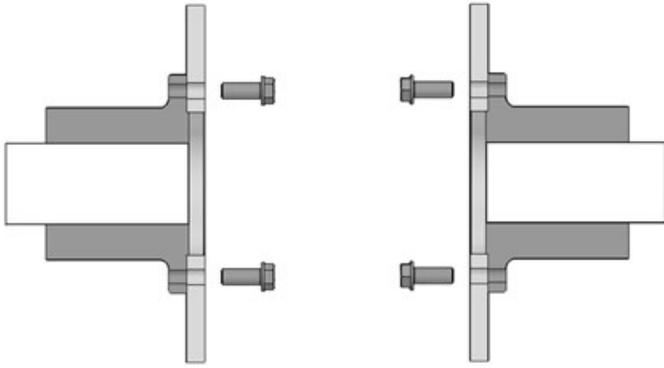

Fig 5.8
- In case it is not possible to compress the flange + link pack assembly, dismount flanges (5) and mount them separately to the hubs (1.1, 1.2) by means of screws and washers (4, 6) (See fig 5.8)